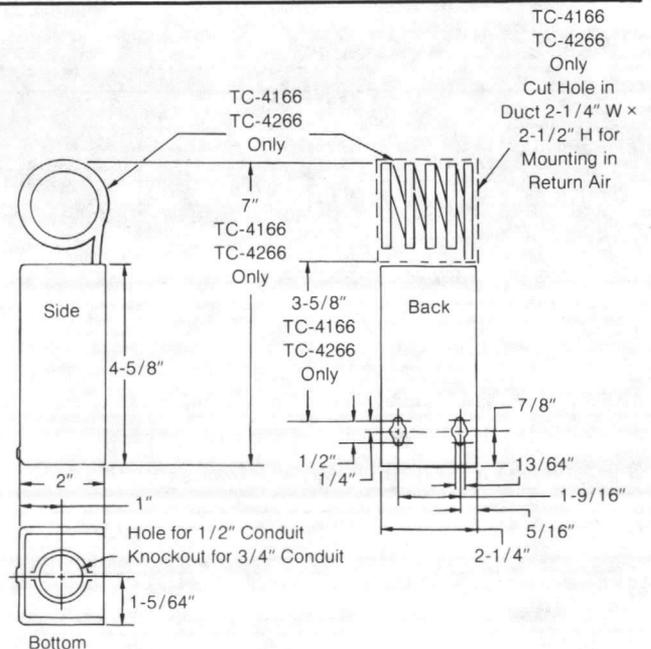

Figure 1. Case Dimensions
1. Prepare duct for mounting by cutting hole and providing mounting screw holes per Figure 1.
Locate the device allowing proper distance to the bulb location. The case can be mounted in any position. Refer to Figure 1 for case dimensions.
1. Remove cover and provide 2 holes for #10 round head screws using the housing as the template or by using the dimensions shown in Figure 1.